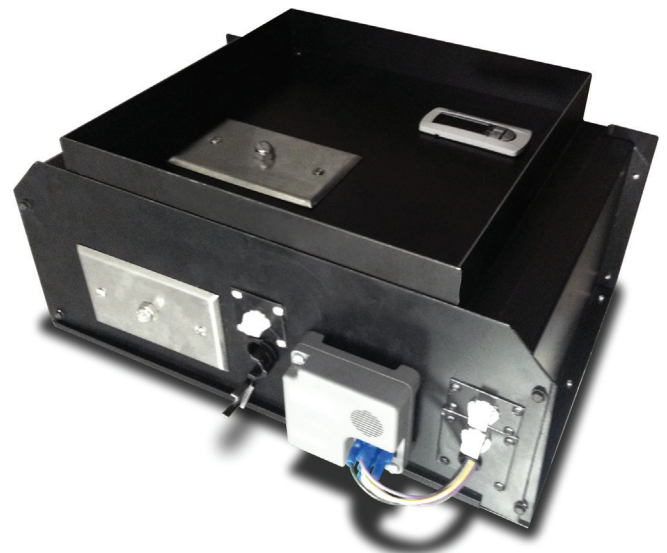

Figure 1
**FlexFloor3 (Underfloor Controller Terminal)** manages the air pressure and monitors the temperature of the underfloor plenum used in underfloor air distribution systems. Preassembled into an MIT sized box with prewired sensors and a Carel pCO controller, the FlexFloor3 drops into the raised floor in place of a diffuser. The FlexFloor3 includes a diffuser grille that is customized to match the type/size/color of other cooling diffusers installed on the project (please specify on order – see Figure 1 for examples).